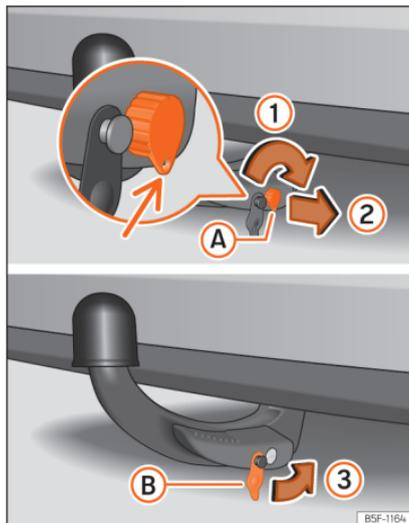

Fig. 255 Putting the tow hook in place. Step 2.
- Turn the key to the right just half a turn, until the hole in the key faces downwards >>> Fig. 255 (1).
- Remove the key (2).
- Place the cover (B) on the lock (3) >>> Fig. 255 >>> ⚠.